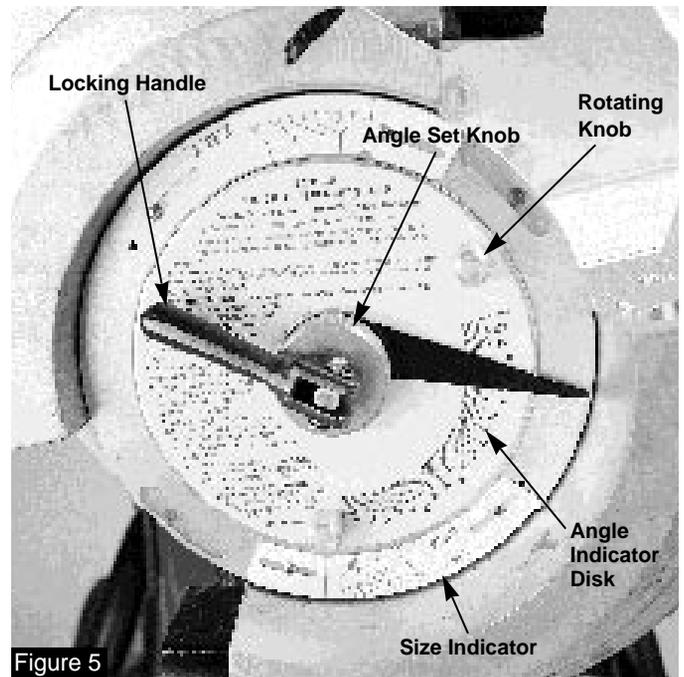

Figure 5
- a. Lift the angle knob locking handle (figure 5). Use the two small knobs to rotate the angle disc, clockwise, until the red zero line is directly in line with the zero line on the size scale.
- c. Move the bend angle knob (figure 5) until the flat edge of the pointer is on a line indicating the exact degree of bend desired. Lower the center handle to lock the pointer and scale and to prevent inadvertent movement during bending.